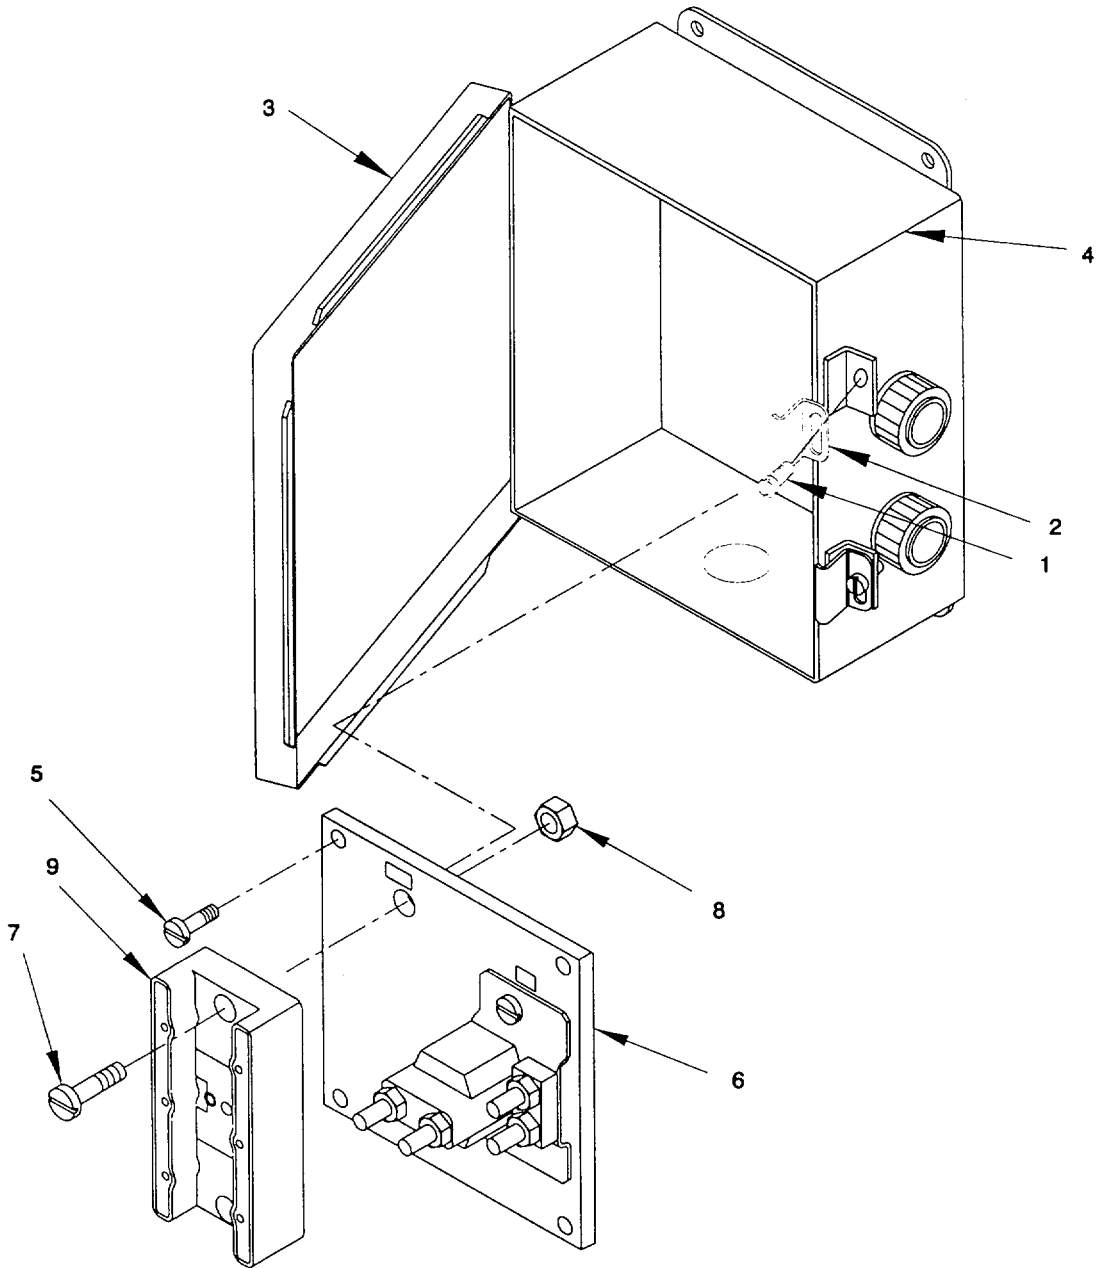

Figure 2-70. Terminal Block, Vent Fan Relay Enclosure, Remove/Install
a. Remove. (figure 2-70)
- (1) Remove three screws (1) and three clamps (2) securing cover (3) to enclosure (4). Swing cover (3) open.
- (2) Disconnect and tag electrical wiring to terminal block (9). Refer to Appendix G.
- (3) Remove four screws (5) and pull panel (6) out far enough to access rear of panel.
- (4) Remove two round head screws (7) and two insert nuts (8) securing terminal block (9). Remove terminal block (9) from panel.
b. Install. (figure 2-70)
- (1) Apply antiseize compound to screws (1, 5 and 7).
- (2) Position terminal block (9) and secure with two round head screws (7) and two insert nuts (8).
- (3) Position panel (6) and secure with four screws (5).
- (4) Reconnect electrical wiring, as tagged, to terminal block (9). Refer to Appendix G. Use tie wraps to secure any loose wires.
- (5) Close cover (3) and secure with three clamps (2) and three screws (1).